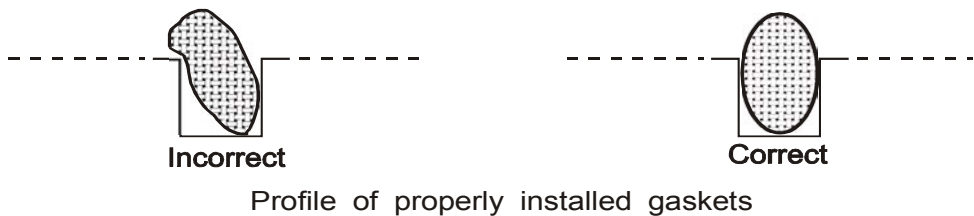

Figure 22. Gasket Installation
- Install the two pre-cut (long) RF gaskets into the grooves for the end reflectors. Insert one end flush with the top of the mounting surfaces (Figure 22). Working toward the other end of the groove, press the gasket strip down firmly with the thumbnail so that it rests at the bottom of the groove.